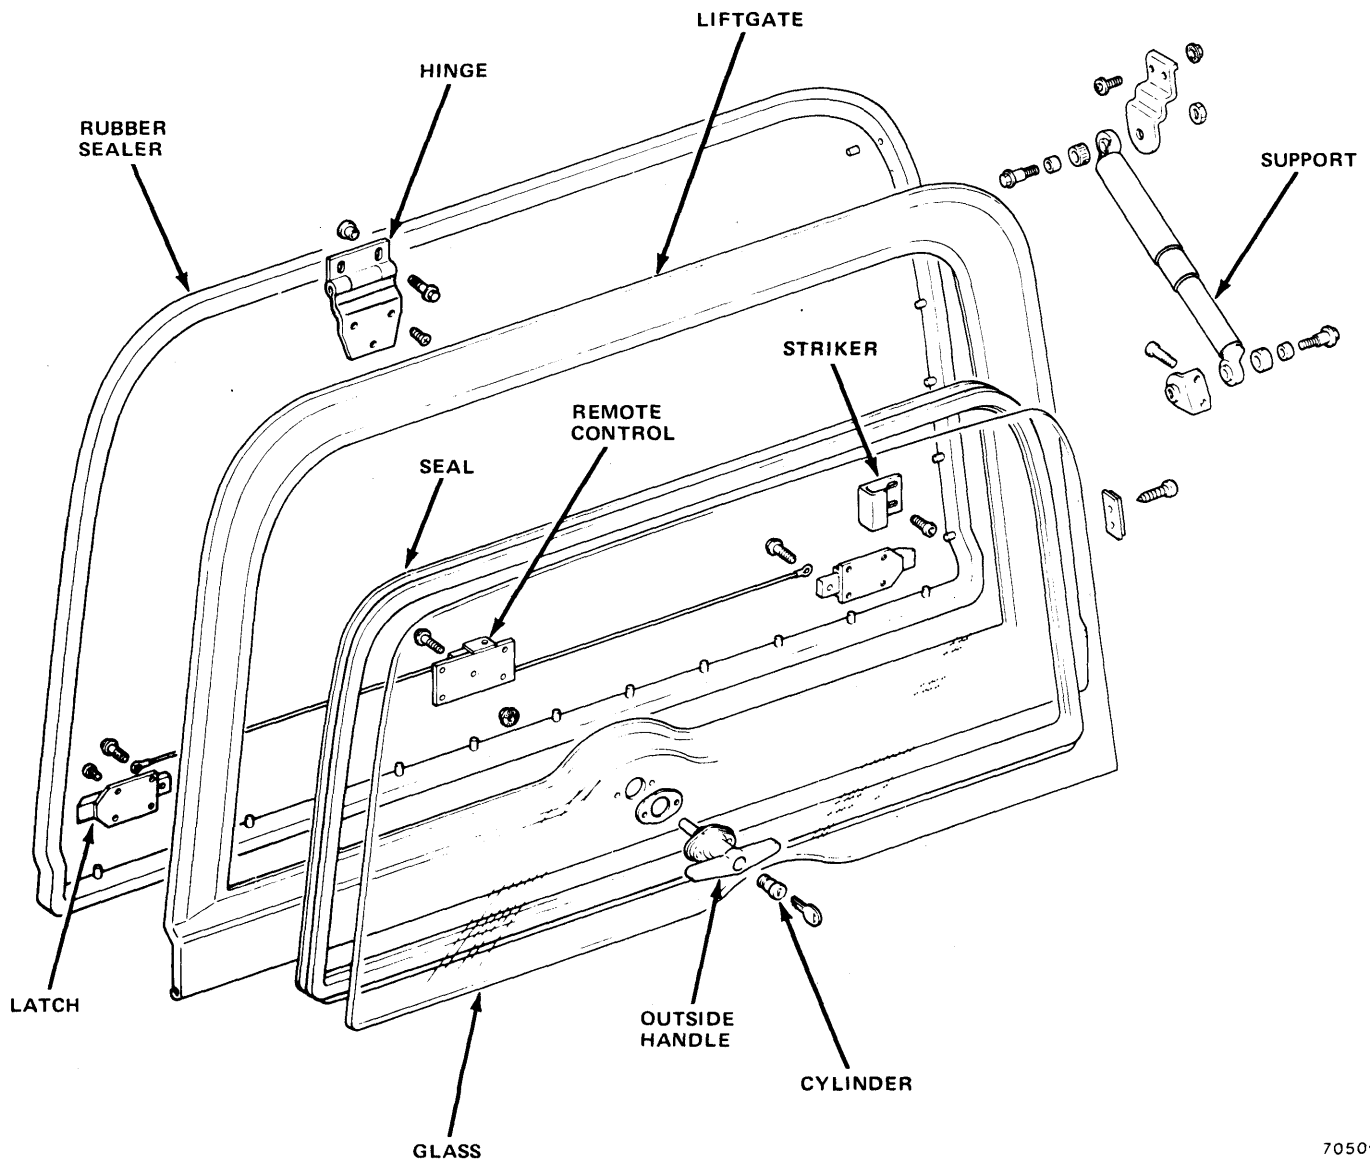

Fig. 20-9 Liftgate Components
(1) Open liftgate, support to prevent closing, and remove lockpins from liftgate support attaching screws (fig. 20-9).
(2) Remove screws attaching supports to liftgate and fold supports downward.
(1) Loosen screw attaching remote control cable to latch. Disconnect cable from screw.
(2) Remove screws attaching latch (fig. 20-9) to liftgate using Torx Bit Tool J-25359-02. Remove latch.
(3) Position latch on liftgate and install attaching screws using Torx Bit Tool J-25359-02.
(4) Connect remote control cable to latch screw and tighten screw.
(1) Loosen screws attaching remote control cables to latch. Disconnect cables from screws.
(2) Remove screws attaching remote control (fig. 20-9) to liftgate using Torx Bit Tool J-25359.
(3) Position remote control on liftgate and install attaching screws using Torx Bit Tool J-25359.
(4) Connect remote control cables to latch screws and tighten screws.
(1) Unlock rubber weatherstrip (fig. 20-9) using wood wand or fiber stick.
(2) Use fiber stick to break seal between glass and rubber weatherstrip.
(3) Push glass and weatherstrip toward outside of vehicle. Remove glass.
(4) Remove weatherstrip from liftgate opening.
(5) Inspect weatherstrip and clean sealer from glass cavity and flange cavity.
(6) Before installing weatherstrip on flange, apply a 3/16-inch bead of 3M Auto Bedding and Glazing Compound or equivalent in weatherstrip flange cavity using a pressure-type applicator.
(7) Install weatherstrip on liftgate opening flange.
(8) Apply a liberal amount of liquid soap solution to glass cavity of weatherstrip.
(9) Position glass into upper glass cavity and into each side. Position wooden wand under glass and lift up and into lower cavity. Check for equal side clearance.
(10) Use wooden wand to lock weatherstrip.